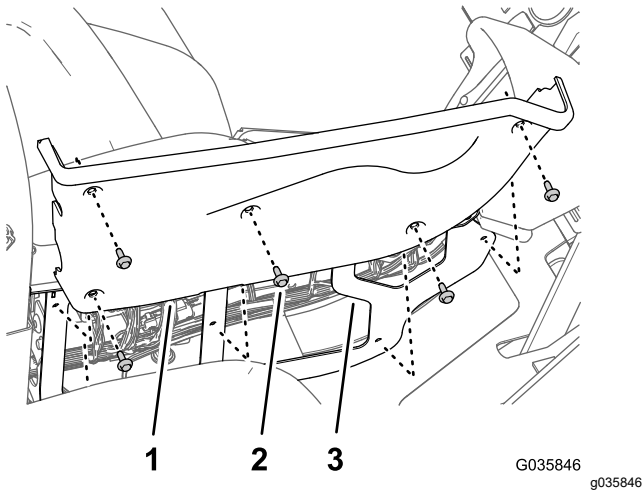

Figure 26
1. Remove the 5 flange-head bolts (1/4 x 3/4 inch) that secure the right-side cover to the center console (Figure 26).
6. Align the holes in the right-side cover with the frame of the center console (Figure 26).
7. Secure the side cover on the center console (Figure 26) with the 5 flange-head bolts (1/4 x 3/4 inch) that you removed in step 1.